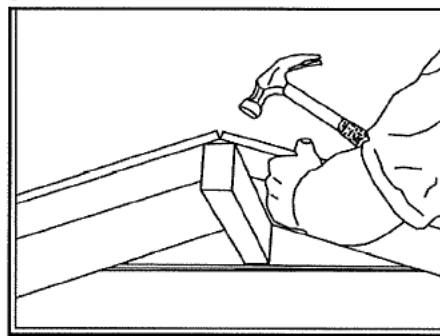

FIG 12
6. Start at the front with the groove facing the front and Lining up with roof beams (fig12). Bevelled corner down- outer roof face flat.